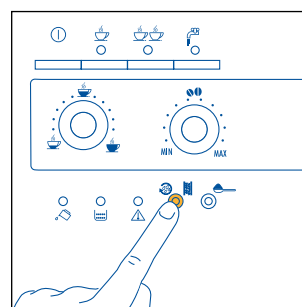

Fig. 14
1) *If, when the machine has just been turned on, a short cup of coffee is required (less than 60cc), use the hot rinsing water to pre-heat the cups (see the suggestion in par. 4.3, point 5).* 1) *If, when the machine has just been turned on, a short cup of coffee is required (less than 60cc), use the hot rinsing water to pre-heat the cups (see the suggestion in par. 4.3, point 5). If, on the other hand, more than 2/3 minutes have elapsed since the last coffee was made, before preparing another coffee the infuser must be pre-heated, pressing the   button (Fig. 14).*